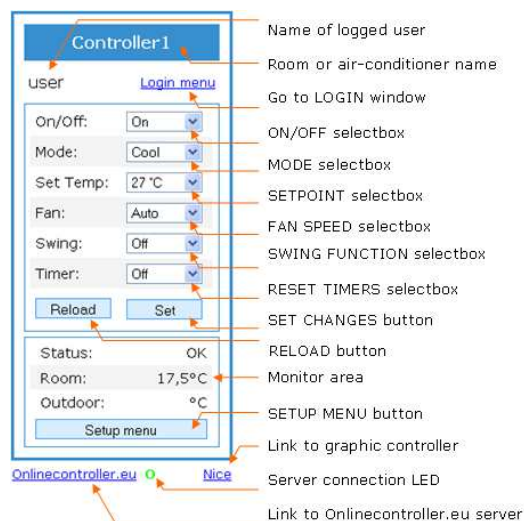

Figure 6
Type the IP address of Online Controller in the address bar of the web browser. The Main (remote easy) screen will be loaded (see Figure 6).
- Be sure, that your Online Controller KKR01A is installed and configured in your network (follow and accomplish previous steps). **The green LED must be active** (see Figure 6). After that, device could be registered successfully.